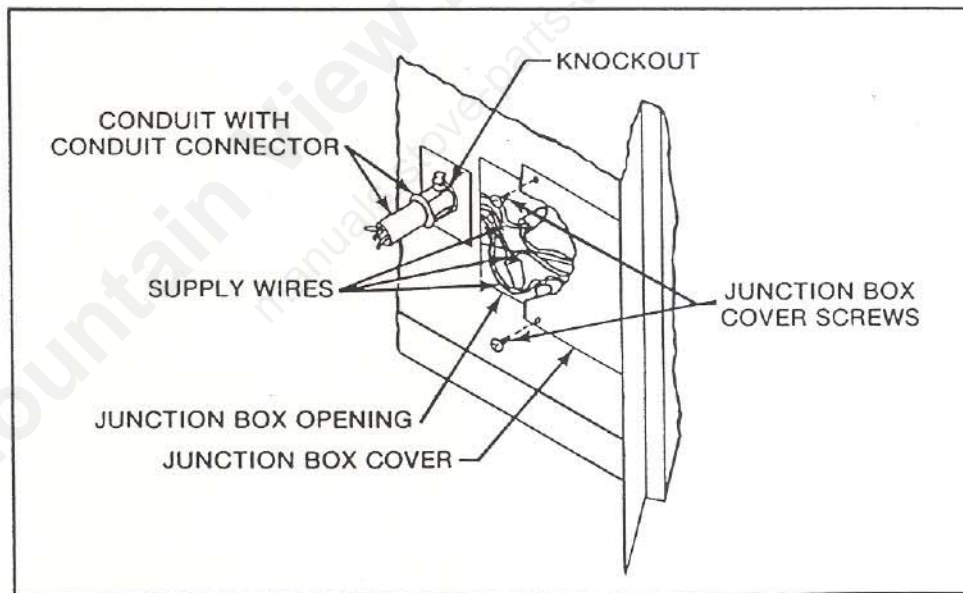

Figure 16
NOTE: Whether intending to install the Fan now, or anticipating installation in the future, it is recommended that you pre-wire the fireplace at the junction box during the installation of the fireplace. Remove the junction box cover located on the left side of the fireplace by removing the two screws used to secure it. Remove the 13/16" diameter knockout by the side of the junction box opening and insert the electrical conduit attached to a 1/2" EMT conduit connector (pressure cast set screw type) through this hole and secure the conduit to the outer shell with the conduit connector lock nut. Firmly attach the supply wires to the appropriately colored receptacle lead wires in the junction box using a 105° C class wire nut that will accept (2) 18 ga. wires. Replace the junction box cover and secure it with the screws previously removed. See Figure 16.